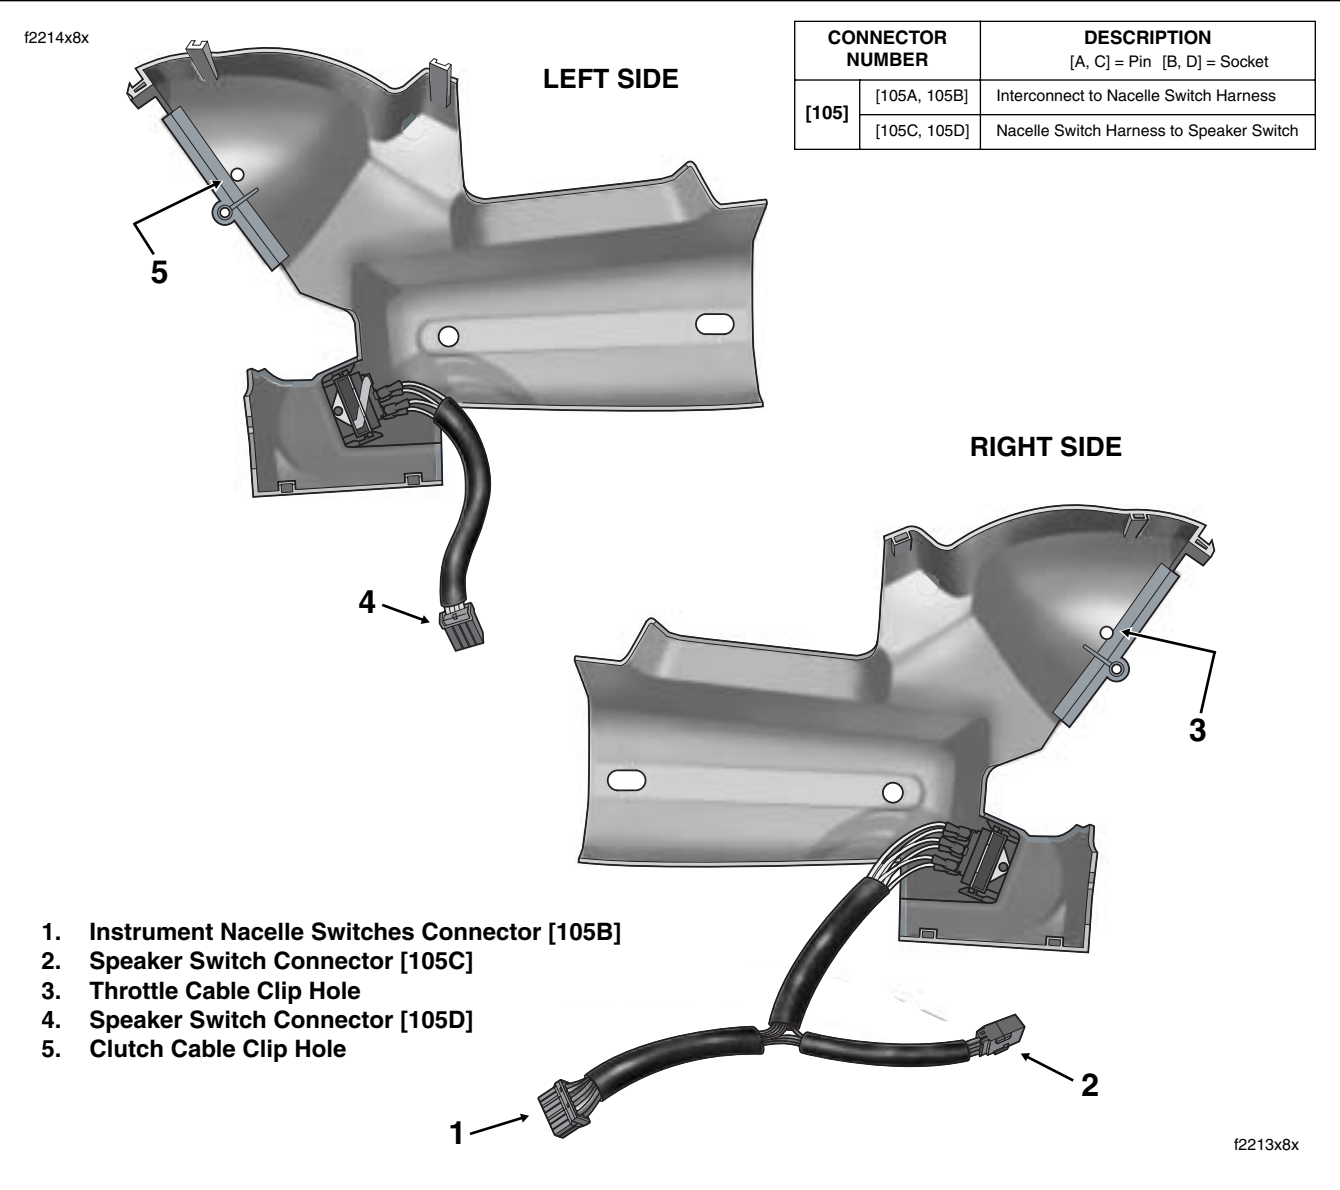

Figure 2-178. Instrument Nacelle Halves
- 6. Unthread rubber boot from odometer reset switch, and while carefully removing left side instrument nacelle from motorcycle, pull odometer reset switch from hole. See Figure 2-178.